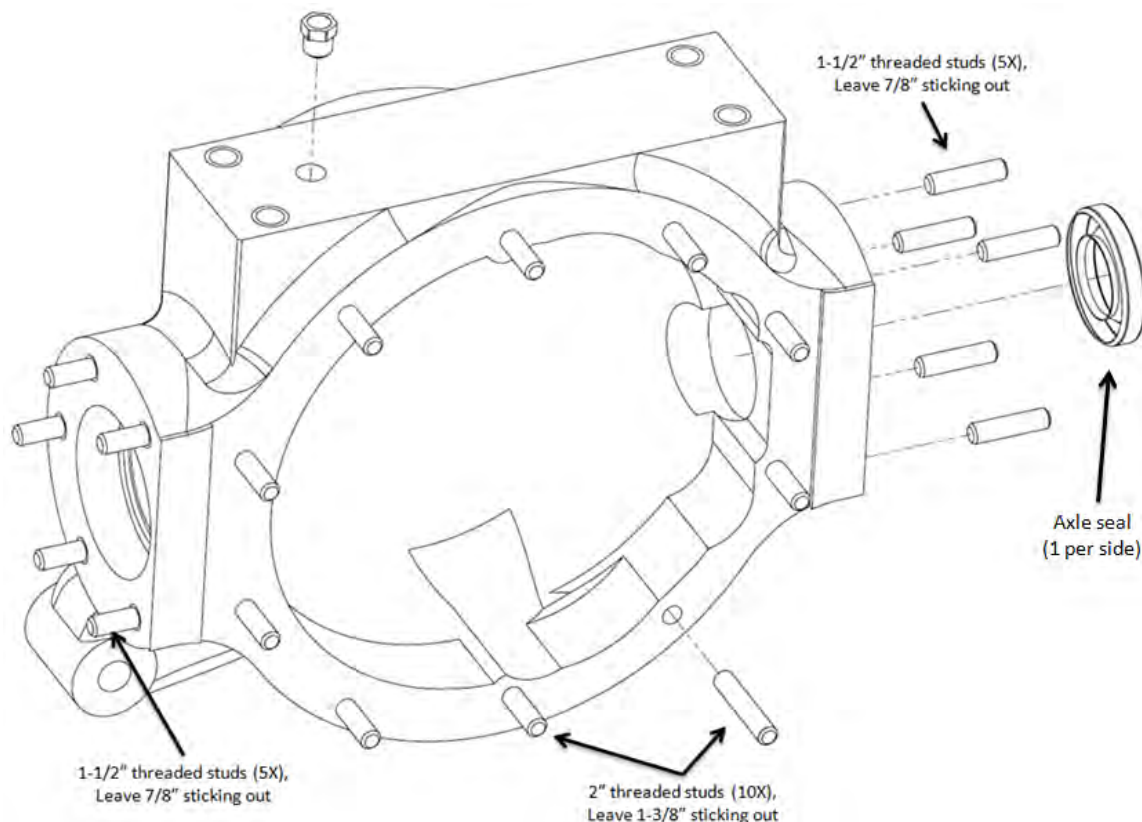

Figure 1. Install the vent, seals, threaded studs and drain plug (not shown) into the rear end housing
- 2) Next, install the threaded studs into the housing. There are 20 studs total, 10 are 1-1/2" long, and 10 are 2" long. Using a high strength thread locking compound, apply a few drops to each stud before installation. The shorter studs get installed onto the housing ends (5 on each side) for the caliper brackets and the longer studs get installed on the mounting face for the third member housing. The short studs should be installed with 7/8" protruding from the housing ends, and the long studs should be installed with 1-3/8" protruding from the third member mounting face, see **Figure 1**.